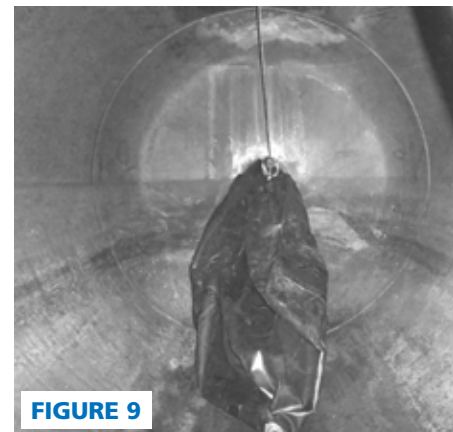

FIGURE 8
8. While keeping alignment marks and guide ropes in mind, tightly roll the Fire-Bag length-wise (Fig. 8) and prepare to install. It is recommended that you use duct tape to hold the Fire-Bag in the rolled position. Depending on the length of the tank/Fire-Bag, you may need to duct tape around the body 2 to 4 times, equally spaced.